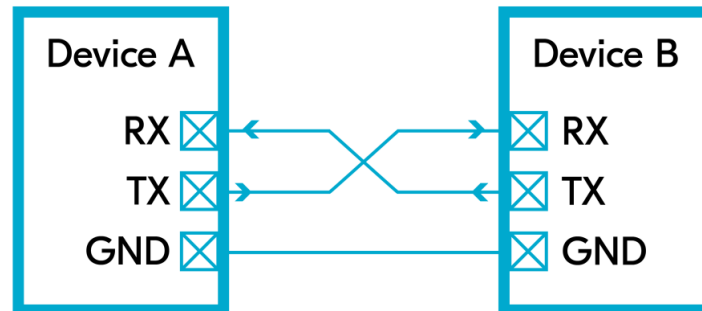

Figure 1: Physical UART connection between two devices showing TX, RX and common ground lines.[1]
Figure 1 shows the basic physical connection of two UART-enabled devices. Each device has a transmit (TX) and a receive (RX) line. The TX pin of one device is connected to the RX pin of the other device, while both systems share a common ground (GND). This cross-connection allows full-duplex communication between the two devices.